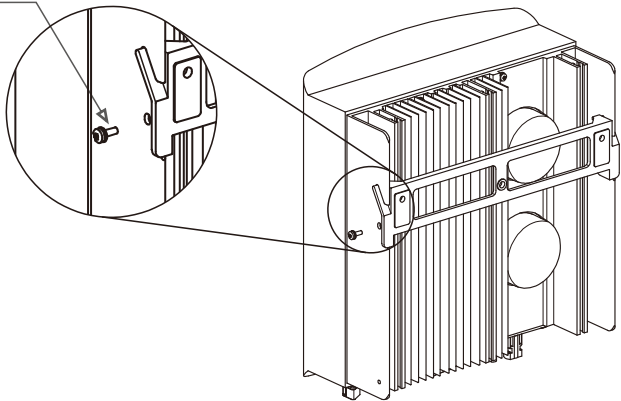

Figure 4.5 Wall Mount Bracket
Please see Figure 4.4 and Figure 4.5 for instruction on mounting the inverter.. The inverter shall be mounted vertically. The steps to mount the inverter are listed below.
4. Lift up the inverter (be careful to avoid body strain), and align the back bracket on the inverter with the convex section of the mounting bracket. Hang the inverter on the mounting bracket and make sure the inverter is secure (see Figure 4.5).